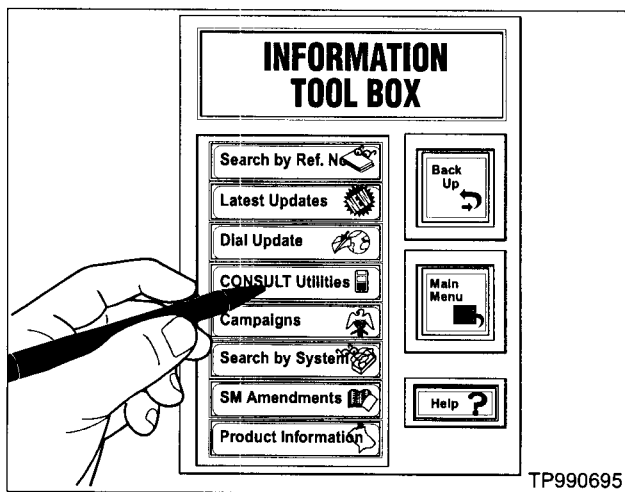

Figure 7
6. From the "INFORMATION TOOLBOX" screen, select "CONSULT Utilities" (see Figure 7).